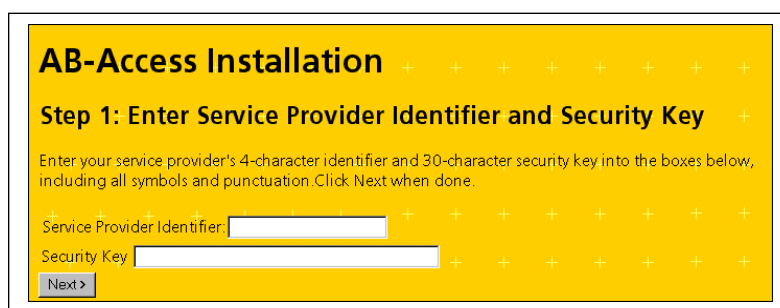

Figure 9-1 Security Screen
To take advantage of this information, the AB-Access Subscriber Units contain an interface, which allows the installer to properly align the unit. Once an SU is mounted in place and roughly aligned using a compass, the installer can attach a computer to the terrestrial interface of the SU and interact with the RSSI web page on the SU to perform alignment (reference Figures 9-1 and 9-2). Connecting to the SU and enabling the RSSI interface is performed in the manner described in the following sections.
NOTE: The RSSI interface is best viewed using a screen resolution of at least 800x600 with 256 colors. Netscape Navigator is recommended as the viewing browser, reference following Figure 9-1 RSSI Sample Web Page.
3. The Security screen appears as shown in Figure 9-1.